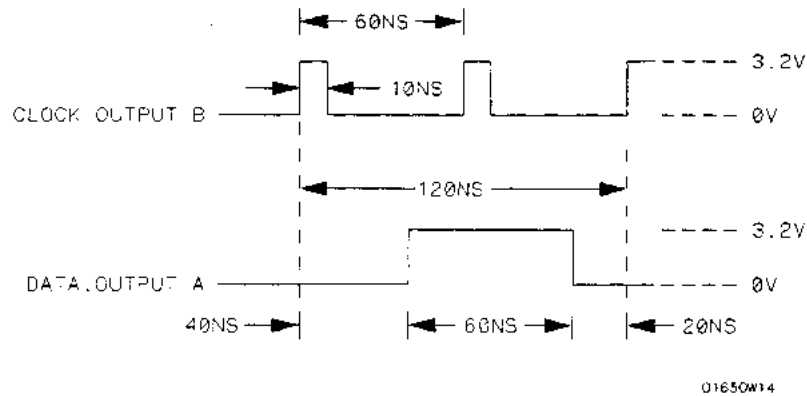

Figure 3-23. Waveform for Data Test 5
2. Adjust the pulse generator for the output in figure 3-23.